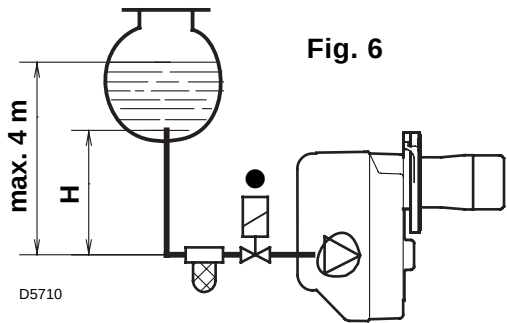
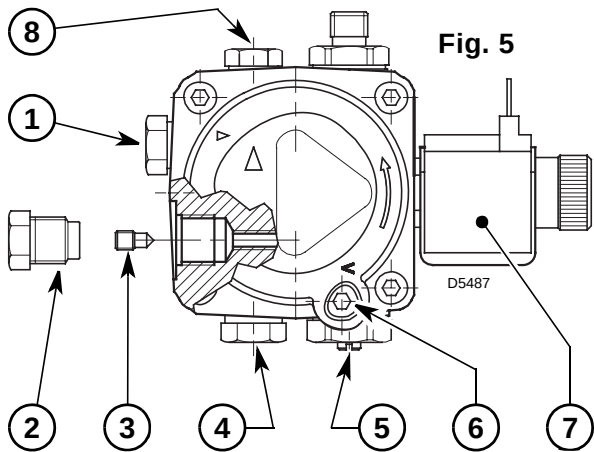

Fig. 6
Fig. 5
- The pump is designed to allow working with two pipes. In order to obtain one pipe working it is necessary to unscrew the return plug (2), remove the by-pass screw (3) and then screw again the plug (2). (See fig. 5).
On the system in fig. 6 it is sufficient to loosen the suction gauge connection (5, fig. 5) and wait until oil flows out.